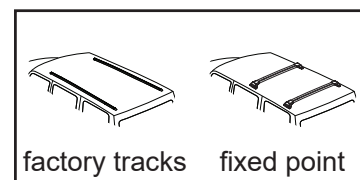

fig. 1
- ☐ For factory-tracks or fixed-points (see figure 1), ensure that the roof does not deform when heavy loads are applied.